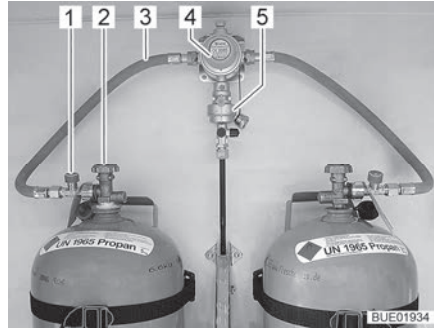
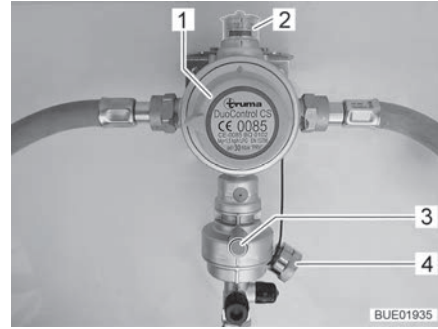
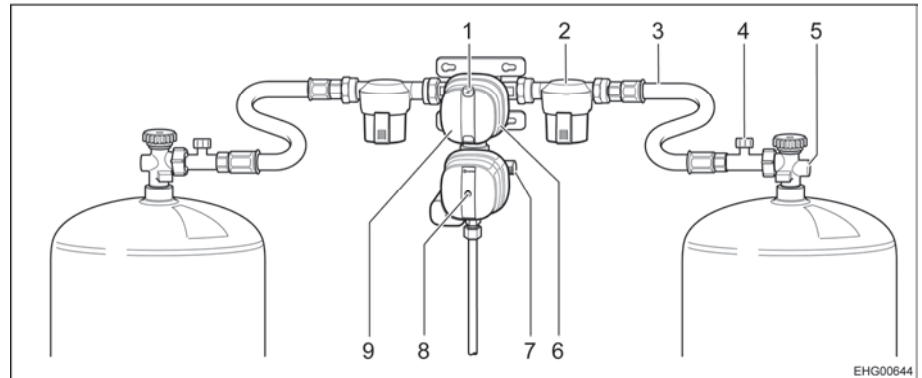

Fig. 69 Gas bottles with DuoControl
Fig. 70 DuoControl regulating system
Fig. 71 Gas pressure regulating system DuoControl CS
The DuoControl regulating system consists of a reversing valve (Fig. 69,4) and a crash sensor (Fig. 69,5). The DuoControl regulating system is installed between the gas tubes (Fig. 69,3) with hose break guard (Fig. 69,1). The knob (Fig. 70,1) on the reversing valve is used to select which of the gas bottles is to be used as primary bottle and which is to be used as reserve bottle.
The status of the gas supply is indicated in the inspection window (Fig. 70,2):
The operation with only one gas bottle is allowed but in this case the open connection must be closed with a blind cover (Fig. 70,4).
The crash sensor blocks the gas supply in the event of a significant impact (e.g. accident). The crash sensor is put into operation with the green reset button (Fig. 70,3).
The hose break guard (Fig. 69,1) blocks the gas flow if the connected hose breaks. The hose break guard must be activated by pressing the green button.
The DuoControl regulating system consists of a reversing valve with crash sensor (Fig. 71,9). The DuoControl regulating system is installed between the high-pressure hoses (Fig. 71,3) with hose break guard (Fig. 71,4). The knob (Fig. 71,6) on the reversing valve is used to select which of the gas bottles is to be used as primary bottle and which is to be used as reserve bottle.
The status of the gas supply is indicated by the status indicator (Fig. 71,1):
The operation with only one gas bottle is allowed but in this case the open connection must be closed with a screw cap (Fig. 71,7).
The crash sensor blocks the gas supply in the event of a significant impact (e.g. accident). The crash sensor is put into operation with the yellow reset button (Fig. 71,8).
The hose break guard (Fig. 71,4) blocks the gas flow if the connected hose breaks.
At the operating unit (Fig. 72), the gas supply via the DuoControl regulating system is switched on and off. The regulator taps (Fig. 71,5) of the gas bottles and the gas isolator taps of the devices must be opened manually.
- Use the knob (Fig. 71,6) on the reversing valve to select the gas bottle which is to be the primary source of gas (primary bottle). Always turn the knob as far as it will go.
- Open regulator taps (Fig. 71,5) on the gas bottles.
- Activate the hose break guard. In order to do this, press and hold the green button (Fig. 69,1) or press the hose break guard (Fig. 71,4) for about 5 seconds. The green marking is shown in the inspection window or on the status indicator (Fig. 71,1).
- Close the regulator taps (Fig. 69,2 or Fig. 71,5) on the gas bottles.
If the green indicator lamp (Fig. 72,6) goes out during operation and the red indicator lamp (Fig. 72,5) lights up, the primary bottle is empty and must be changed. The red marking is shown in the inspection window (Fig. 70,2) or on the status indicator (Fig. 71,1). The reserve bottle continues supplying the gas appliances with gas.
- Turn the knob (Fig. 71,6) a half turn in the direction of the currently used gas bottle. In this way, this gas bottle is the primary bottle now, and the empty gas bottle becomes the reserve bottle. The marking in the inspection window (Fig. 70,2) or on the status indicator (Fig. 71,1) changes from red to green.
- Close the regulator tap (Fig. 69,2 or Fig. 71,5) on the empty gas bottle. Pay attention to the direction of the arrow.
- Activate the hose break guard. In order to do this, press and hold the green button (Fig. 69,1) or press the hose break guard (Fig. 71,4) for about 5 seconds.